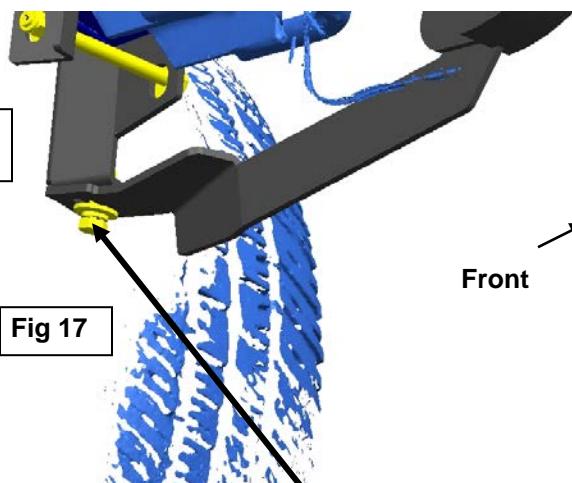
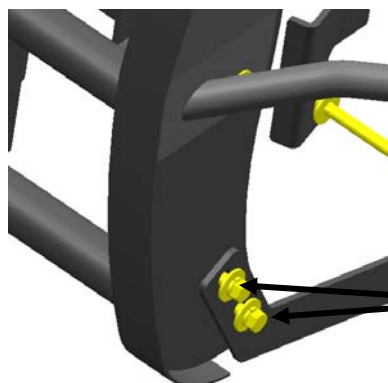

Fig 17
Fig 18
11. Next, move to the driver side lower mount welded to the Grille Guard. Line up the slot in the bottom of the Outer Support Bracket with the lower mount on the Grille Guard. Bolt the two Brackets together with (1) 12mm x 40mm Hex Bolt, (2) 12mm Flat Washers, (1) 12mm Lock Washer and (1) 12mm Hex Nut, (**Figure 17**). Snug but do not tighten hardware at this time. Then, connect the left support bracket and right support bracket with left outer support bracket & right outer support bracket with the same hardware (**Figure 17**). Finally, install with the main body (**Figure 18**).